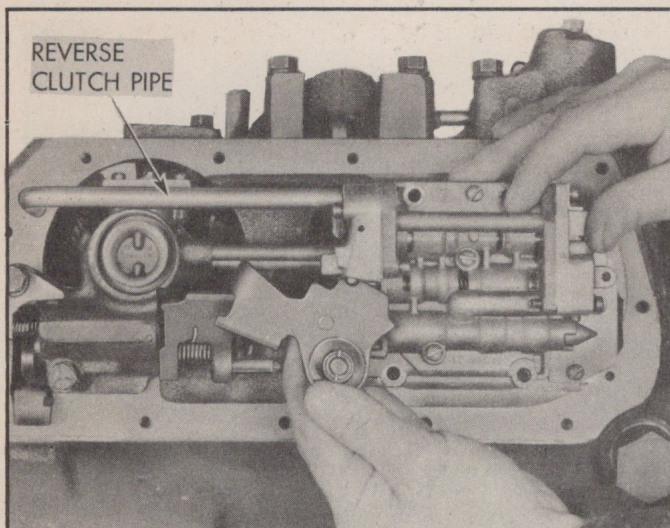

Fig. 116—Removing Control Valve Assembly
8. Work control valve assembly toward the front of the case to remove governor pipes and reverse clutch pipe (Fig. 116).